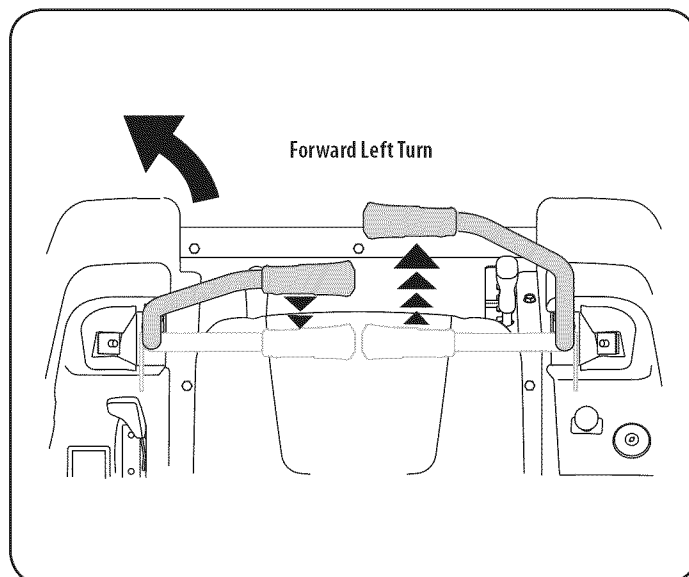

Figure 16
1. To turn to the left, move the left drive control lever rearward of the right lever. See Figure 16.